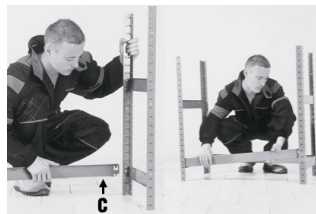

Fig. 3
4. Connect the vertical supports using 2 of the long shelf braces (C) (Fig. 3).